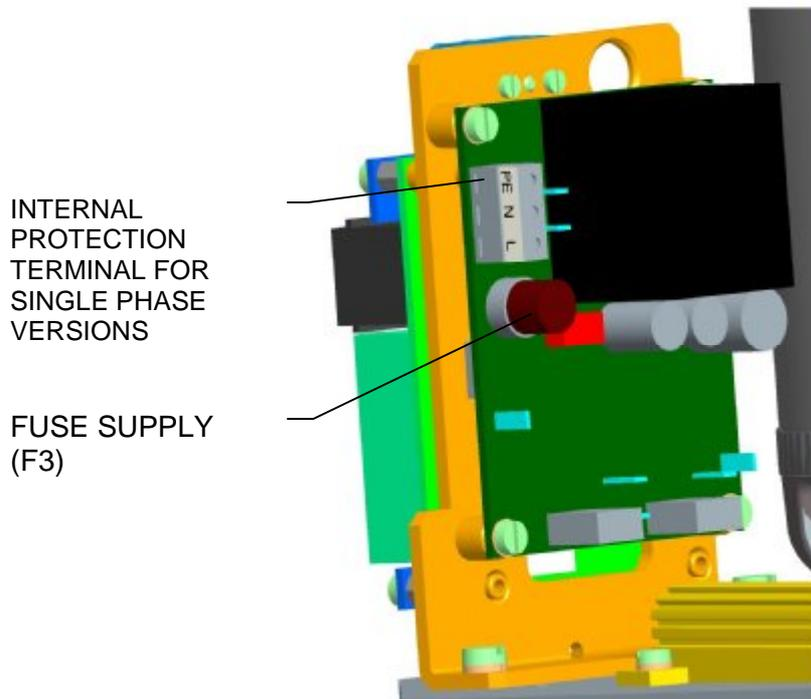

Fig.2
- for safety operation of the actuator use EA be unavoidable connect external and internal ground terminal. The position of the external a internal ground terminal (by version EA) can be seen in Fig. 2, 2a, 2b, 2c, 2d,2g,2h.
Actuator power supply board is installed with power supply fuse (F3). Location of the fuse on the power supply board can be seen in Fig.2.